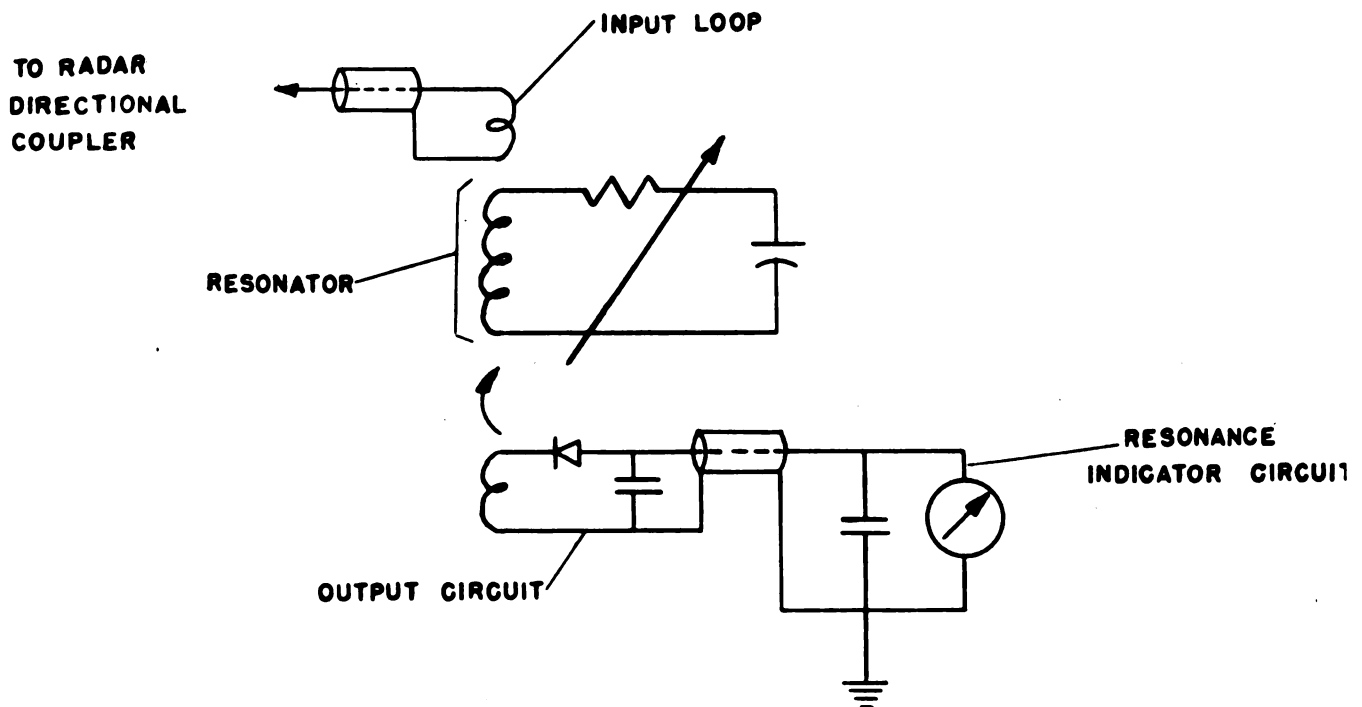

Figure 4-1.
a. The echo box can be represented by the equivalent circuit shown in Figure 4-1. The high Q cavity resonator of the echo box is represented as a parallel resonant circuit. The input and output circuits are link-coupled to this resonator with half-turn loops. The output circuit contains an R-F bypass condenser, an audio bypass condenser, and a crystal rectifier together with a meter for reading its current. The coupling of the output loop is adjustable. The resonator is a large round waveguide which is short circuited at one end with a fixed plate and which is effectively short circuited at the other end by a movable plate that does not make contact with the cavity wall. As the dial is turned clockwise the movable plate is moved out and the resonator is made longer. The increased length lowers the resonant frequency, just as though the coil and condenser in the equivalent circuit were made larger.